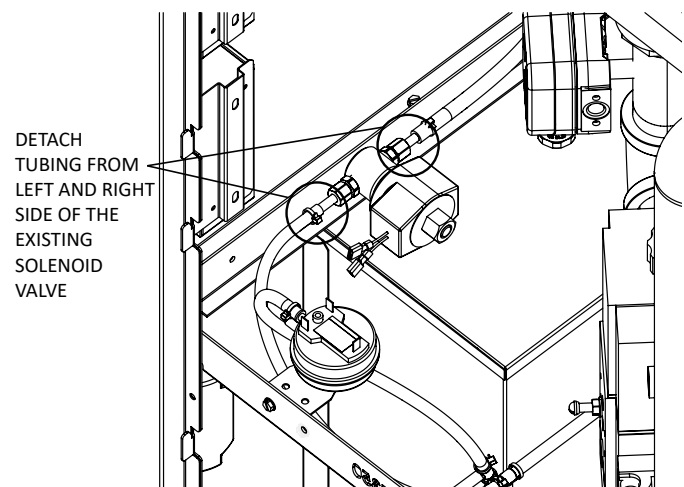

Figure 3. Detach Tubing from Solenoid Valve
8. Detach the flex tubing from the left and right sides of the installed solenoid valve. See **Figure 3**.